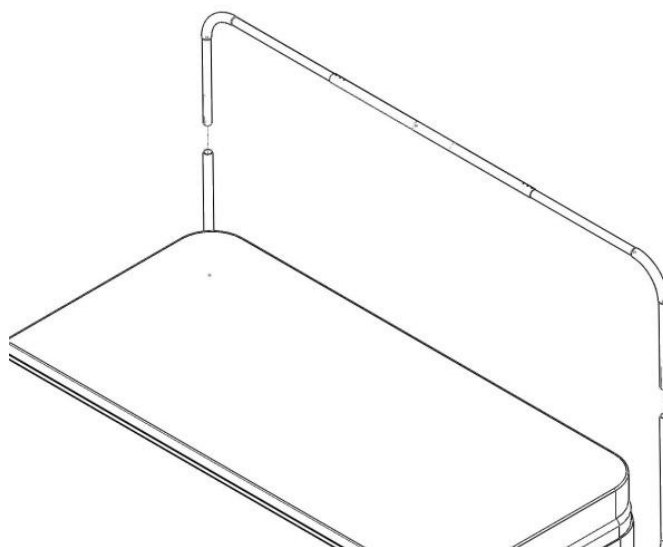

Figure 7
7. Insert the short arms of the Support Arms (EX-A) into the Pivot Arms (EX-B). See Fig 7.